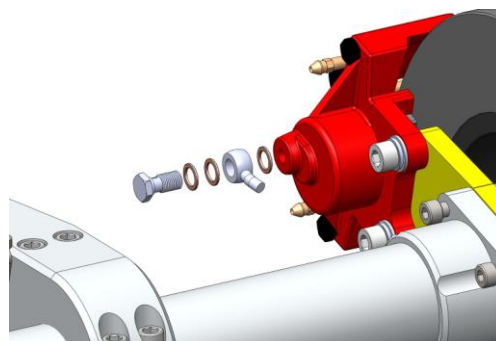

Figure 5
- a. Attach brake line to each caliper using the supplied banjo bolts and crush washers. (Note: Use a total of three crush washers.) Figure 5